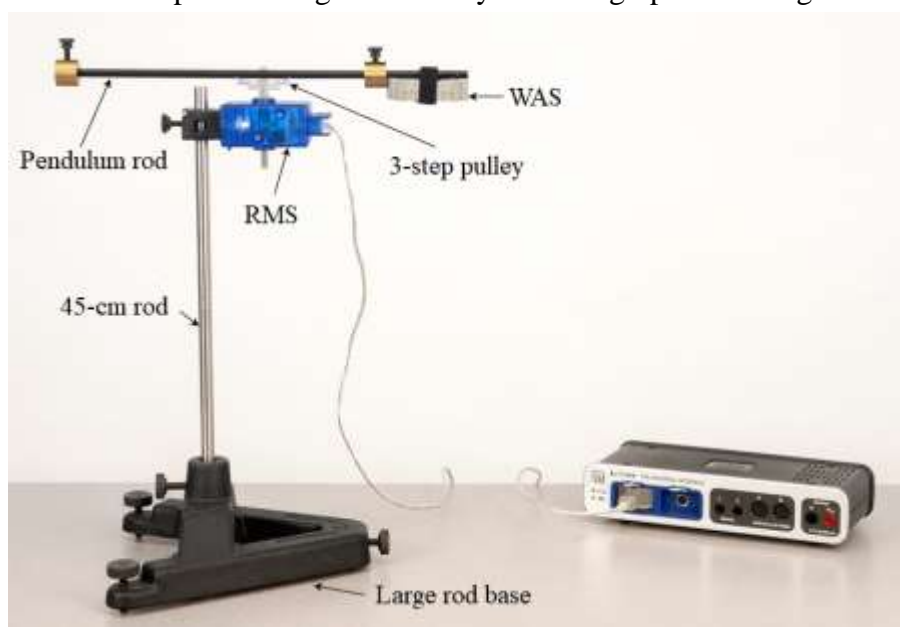

Figure 1: Experimental Setup
1. Attach the 45-cm rod to the large rod base as shown in Figure 1. Make sure the lower end of the rod is not touching the tabletop.